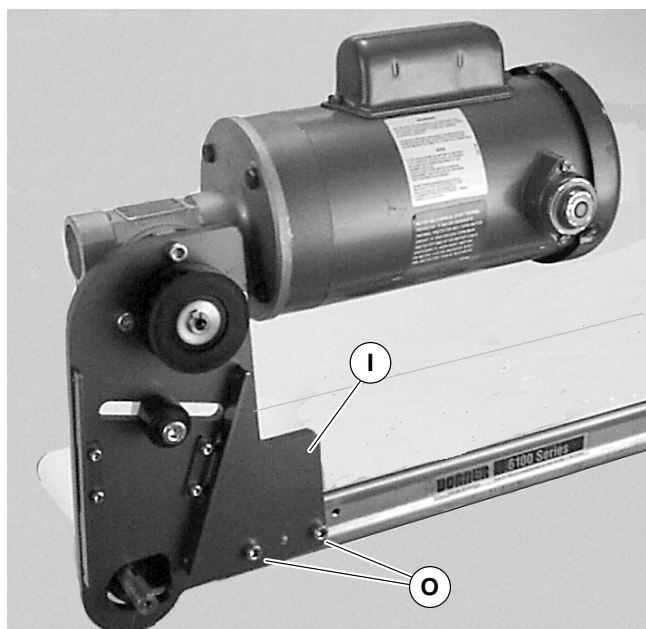

Figure 6
4. Attach mount assembly (I of Figure 6) with screws (O). Tighten to 80 in-lb (9 Nm).